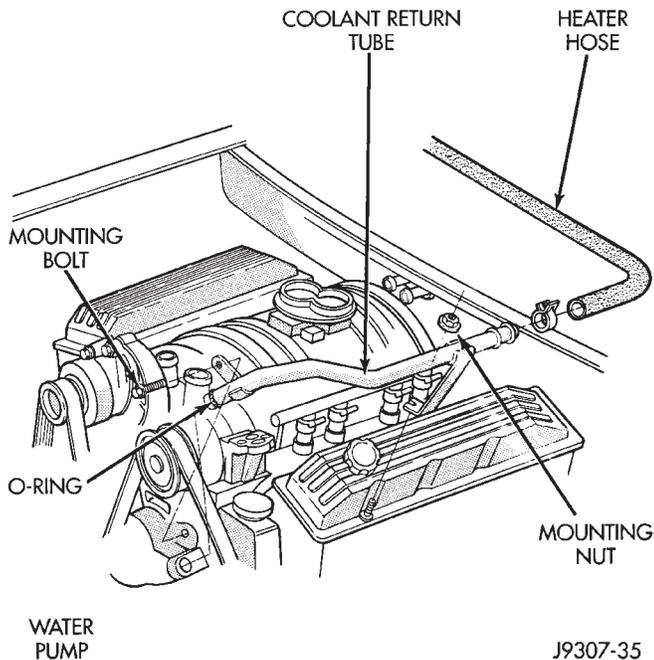
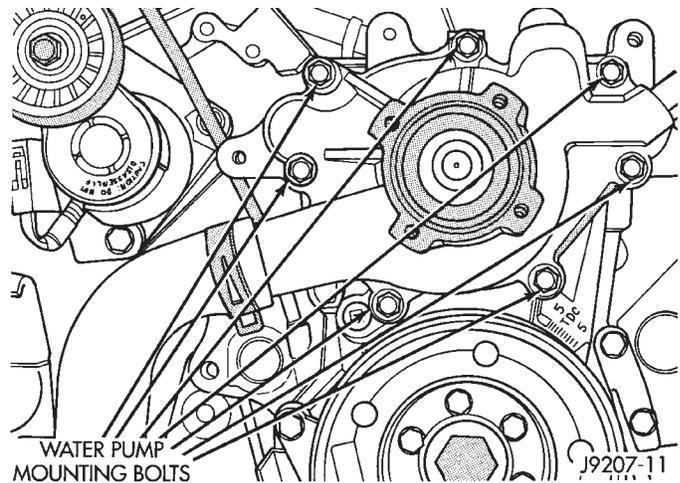

Fig. 35 Coolant Return Tube—5.2/5.9L Engines
Fig. 36 Water Pump Bolts—5.2/5.9L Engines—Typical
(11) Remove lower radiator hose clamp and remove lower hose at water pump.
(12) Remove heater hose clamp (Fig. 35) and heater hose from heater hose coolant return tube.
(13) Loosen heater hose coolant return tube mounting bolt and nut (Fig. 35) and remove tube from water pump. Discard the old tube o-ring.
(14) Remove seven water pump mounting bolts (Fig. 36).
- (1) Clean gasket mating surfaces.
- (2) Using a new gasket, install water pump to engine as follows: Guide water pump nipple into bypass hose as pump is being installed. Install water pump bolts (Fig. 36). Tighten water pump mounting bolts to 40 N·m (30 ft. lbs.) torque.
- (3) Position bypass hose clamp to bypass hose.
- (4) Spin water pump to be sure that pump impeller does not rub against timing chain case/cover.
- (5) Install a new o-ring to the heater hose coolant return tube (Fig. 35). Coat the new o-ring with anti-freeze before installation.
- (6) Install coolant return tube to engine (Fig. 35). Be sure the slot in tube bracket is bottomed to the mounting bolt. This will properly position return tube.
- (7) Connect radiator lower hose to water pump.
- (8) Connect heater hose and hose clamp to coolant return tube.